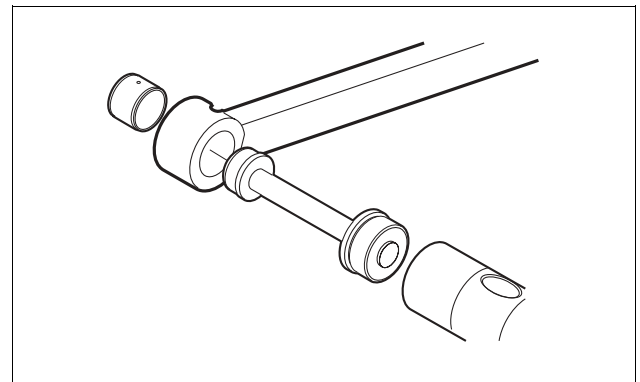

Fig. 39 Remove the bushings
4. Remove the bushings. *See Fig. 39.*